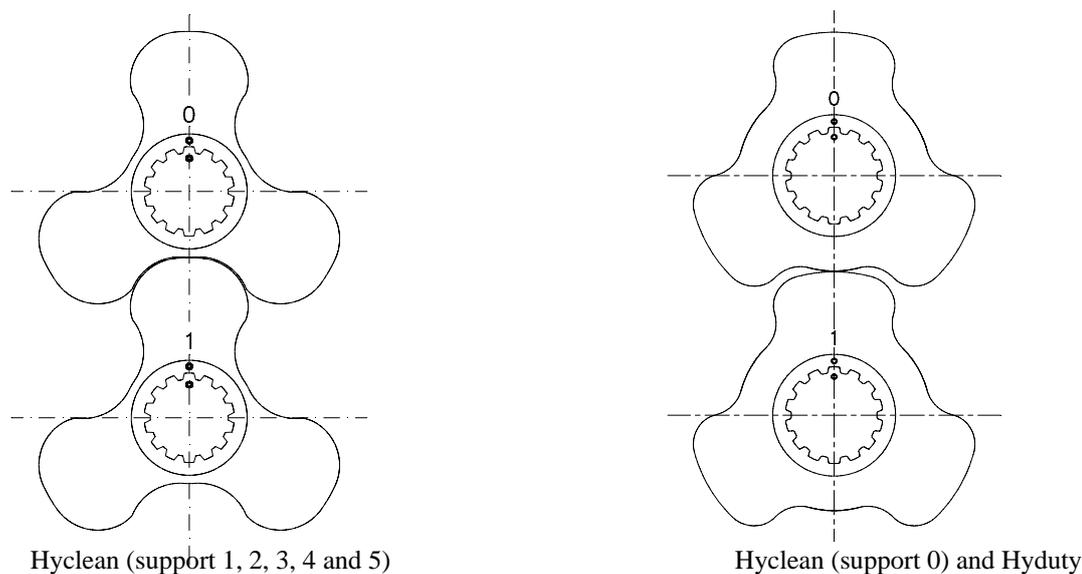

Figure 8.4
- Slide the lobes onto the shafts as far as the shaft sleeve. Observe the markings (0 - 1 and ●); see figure 8.4.
- Check that the O-rings (80) of the lobe screws (25) are still in a good condition and that they are correctly positioned in the groove.
- Slide the lobes onto the shafts as shown in figure 8.4. Press the lobes against the shaft liner.